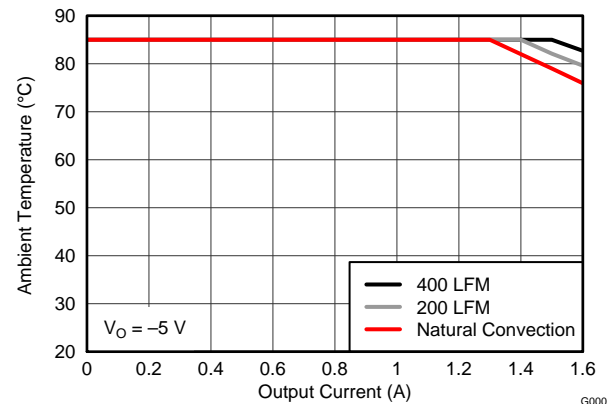
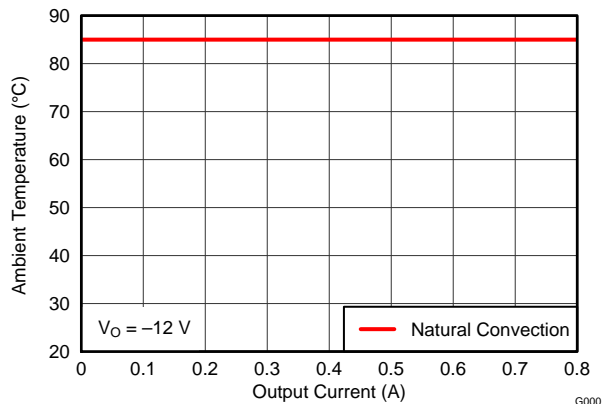
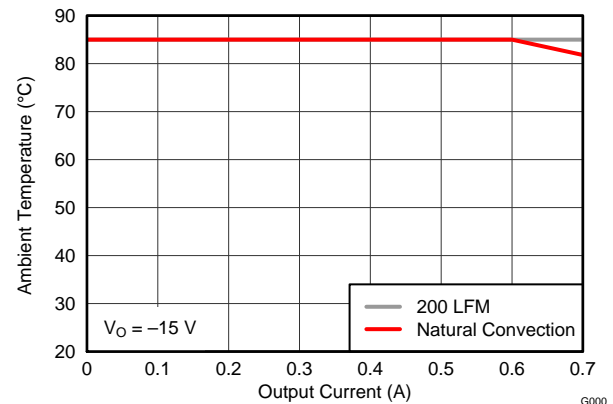

Figure 12. Safe Operating Area
Figure 13. Safe Operating Area
Figure 14. Safe Operating Area
- (2) The temperature derating curves represent the conditions at which internal components are at or below the manufacturer's maximum operating temperatures. Derating limits apply to devices soldered directly to a 100 mm × 100 mm, 4-layer, double-sided PCB with 1 oz. copper. Applies to Figure 12, Figure 13, and Figure 14.